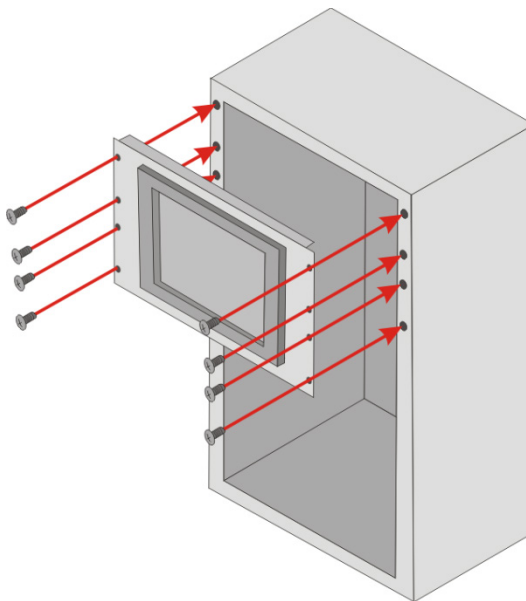

Figure 3-32: Install into a Rack/Cabinet
Step 6: Slide the panel PC with the attached rack/cabinet bracket into a rack or cabinet (Figure 3-32).
Step 7: Once the panel PC with the attached rack/cabinet bracket has been properly inserted into the rack or cabinet, secure the front of the rack/cabinet bracket to the front of the rack or cabinet (**Figure 3-32**).